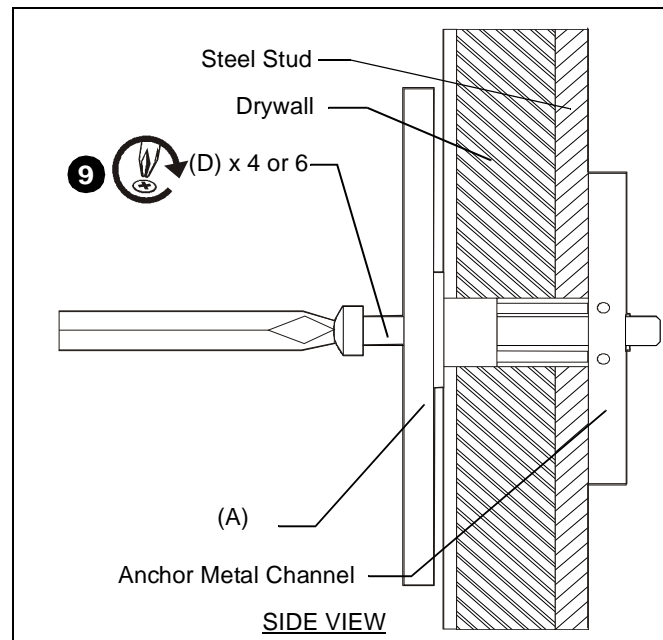

Figure 33
11. Place wall track accessory (A) over anchors and align mounting holes in display mount with holes in anchors. (See Figure 33)
12. Insert 1/4-20 x 1 3/4" Phillips pan head screws (D) through corresponding mounting hole on wall track accessory and into anchor (C) and tighten until flush against mount. DO NOT overtighten! (See Figure 33)